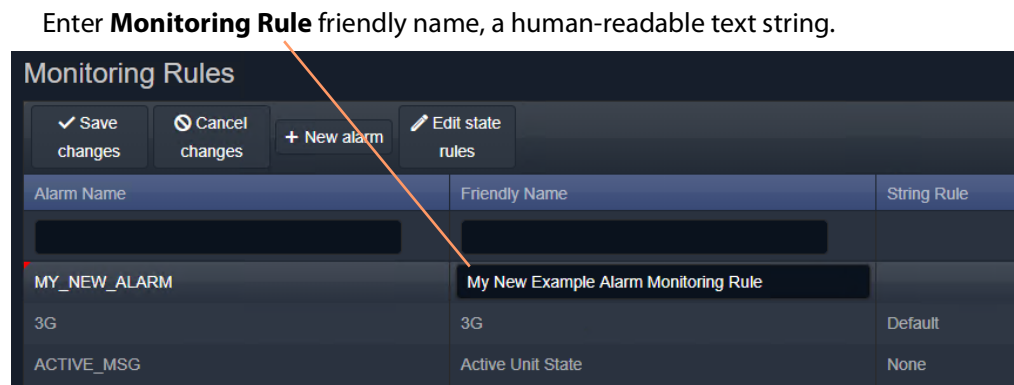

Figure 73: Enter a Friendly Name for the Monitoring Rule
- 3 Enter a friendly name (title) for the new **Monitoring Rule**, a human-readable text string. See Figure 73.